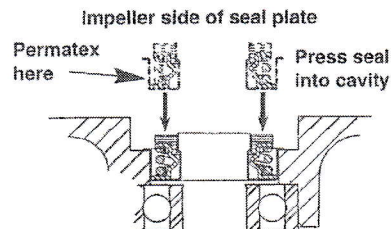

Figure 1
NOTICE: Make sure that seal faces are clean and undamaged. Apply Permatex #2 or equivalent sparingly to outside edge of seal body (with spring) Figure 1.
1. Press new seal body into cavity in seal plate (Figure 1).